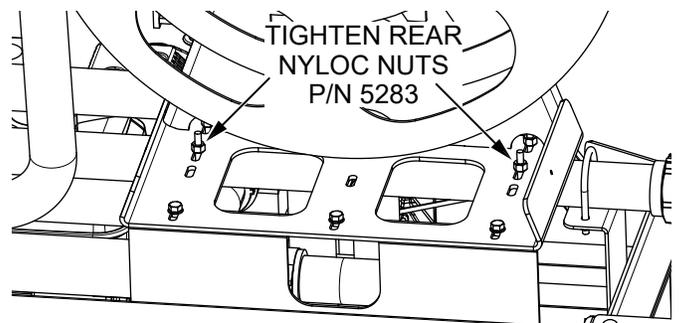

**Figure 6. Install Three 5/16-18 × 3/4 Hex Head Flange Screws**
5. Install the **three 5/16-18 × 3/4 hex head flange screws (P/N 36720)** as shown in Figure 6, but **DO NOT** fully tighten them yet. Leave the screws loose enough to allow the **hose reel drum assembly (P/N 59136)** to slide back and forth.